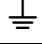

**Figure 1. Tactile Barrier**
- **Do not hold the Clamp Meter anywhere beyond the tactile barrier, see Figure 1.**